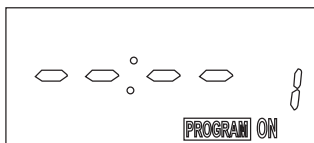

Figure 3
1. Press either the DOWN or UP (< or >) key to enter the Program 1 On Mode, which is indicated by the appearance of **PROG .1 ON** on the display. In Figure 3, Program 1 On Mode with no setting is shown.